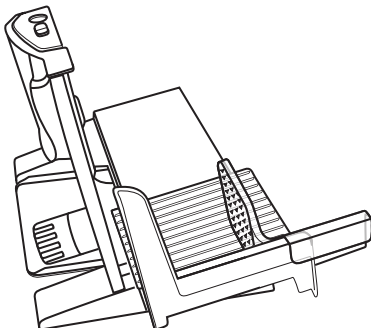

Figure 3
3. Pull the sliding food guide towards you, as far as it will slide. Place the food to be sliced on the sliding food guide with the safety food holder in place, so that it rests against the width panel. See Figure 3. Do not rest food against the blade. Ensure that the safety food holder holds the food firmly in place.